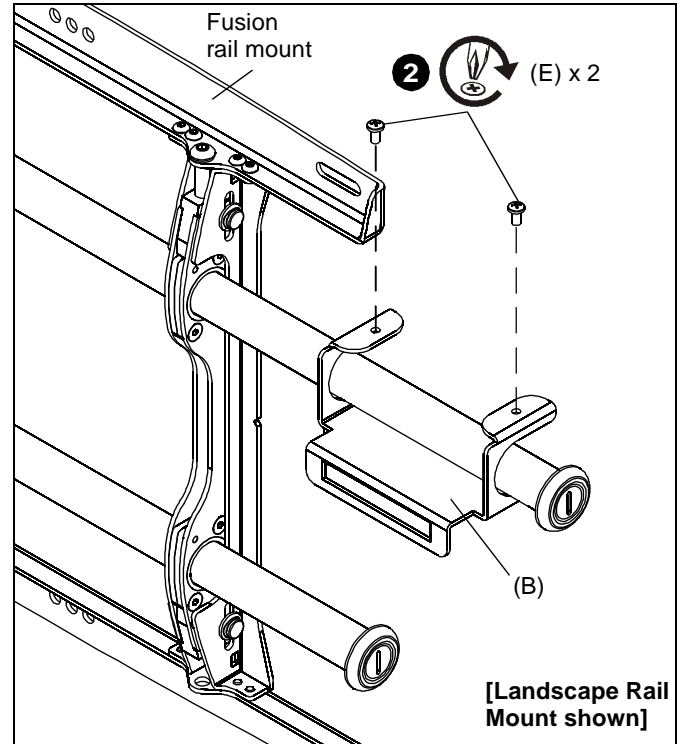

Figure 2
2. Add and loosely tighten two 10-24 x 3/8" Phillips head screws (E) through the top bracket (B) to the rail mount. (See Figure 2)